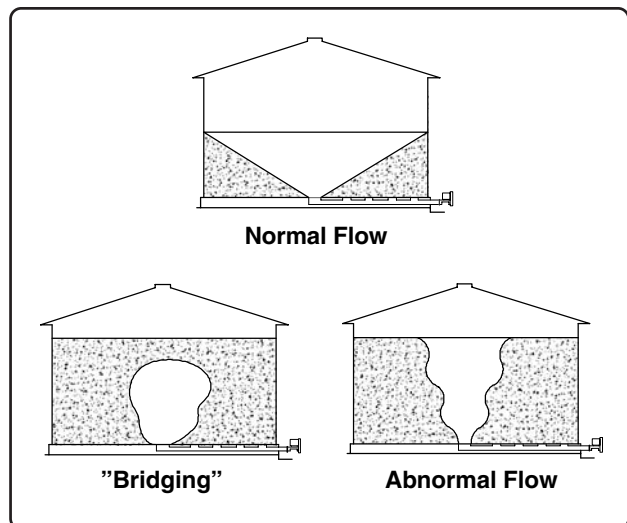

Fig. 1
**DANGER!** Do Not enter the grain bin if the grain has not flowed out normally, or if it has created a "Bridging" affect as shown in Fig. 1. The grain may suddenly break loose and bury causing suffocation.
The grain remaining in the bin should appear as the normal flow illustration in Fig. 1. **Do Not** enter the bin if the grain has created a "Bridging" affect or if it has flowed "Abnormally" as shown in Fig. 1.